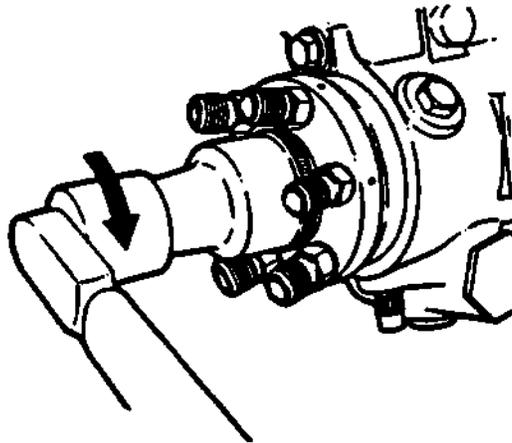

FIGURE 3-105. Installing End Cap
- cn. Insert end cap plug tool in end cap (5, FIGURE 3-73) and tighten end cap using end cap socket (20548), refer to FIGURE 3-105.